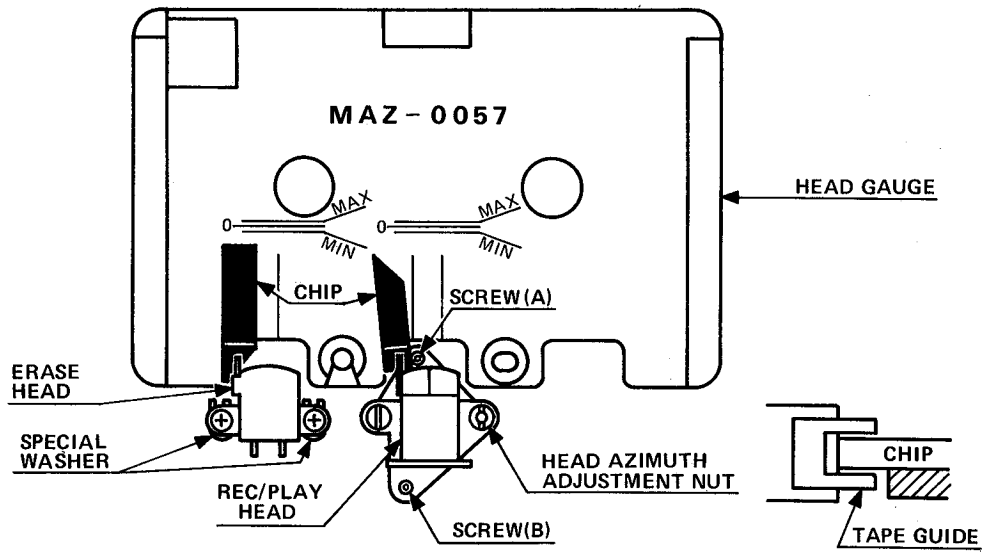

Fig. 1
2. Depress playback button and, adjusting the hexagon screws (A) and (B) to the same direction and turns, set the head so as the adjustment chip attached to the gauge not to touch the tape guide of the head as shown in Fig. 1.
2. Depress playback button and adjust the head height with special washer under the head so as the adjustment chip attached to the head gauge not to touch the tape guide as shown in Fig. 1.